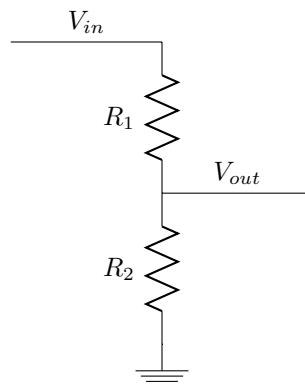

Figure 7: Example of a Voltage Divider
- For an example schematic, see figure 7